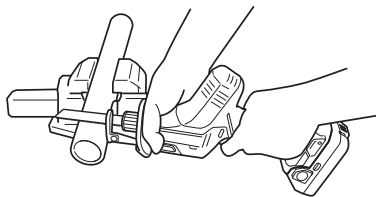

Fig. 22
- (1) Fasten a workpiece firmly before operation. (Fig. 22)